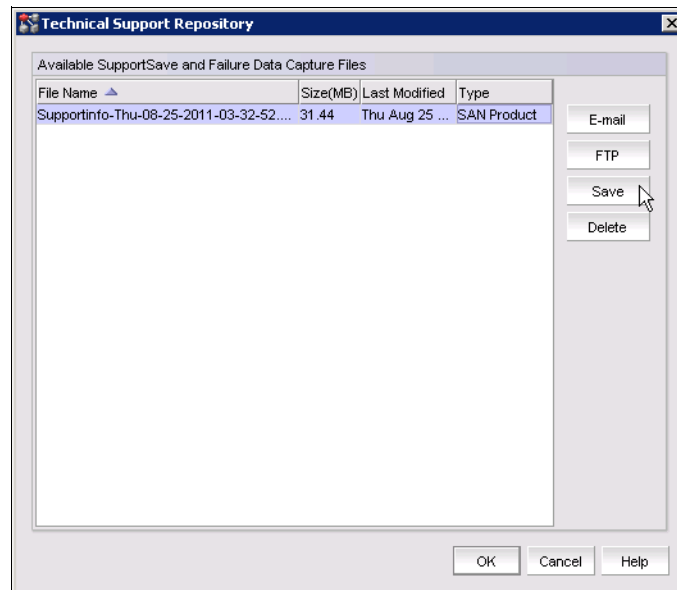

Figure 15-9 Technical Support Repository
4. In the Technical Support Repository display (see Figure 15-9), click **Save** to store the data on your system.